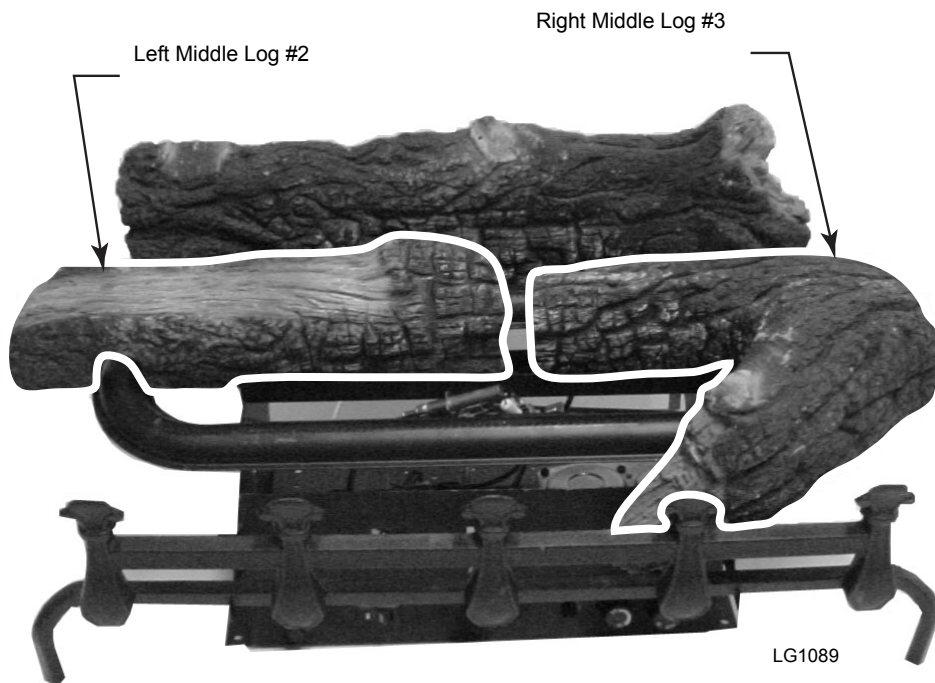

Figure 22
2. Place Left Middle Log (#2) on middle support and burner. *Figure 22*
3. Place Right Middle Log (#3) on middle support *Figure 22*